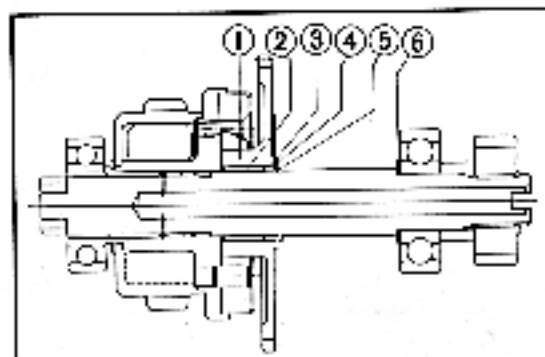

Fig. 166 ① Starting clutch gear
5. Reassemble the kick starter components in accordance with Fig. 166.